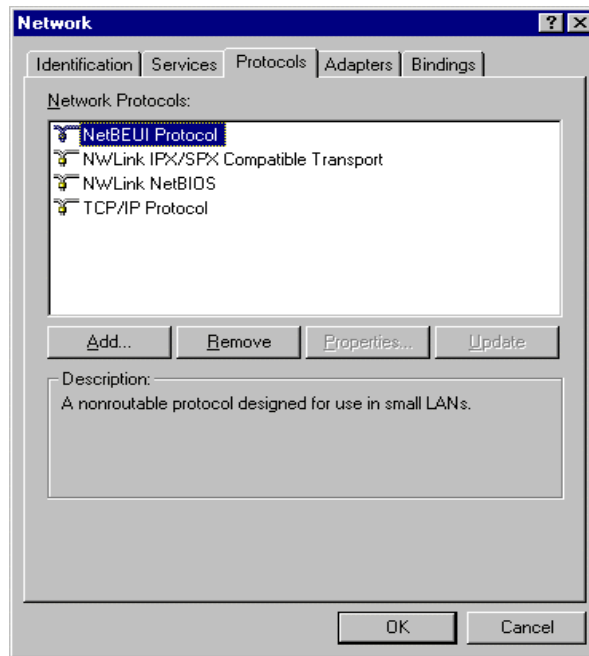

Figure 9-2. Protocol tab on Network Dialog
2. The Network dialog box will display. Click on the **Protocols** tab (Figure 9-2). Click **Add** to begin the installation of TCP/IP Passthrough.